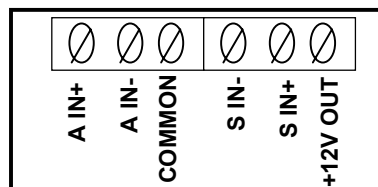

Figure 16
6. Insert the sensor's DC common (or negative) output wire into the **S IN-** terminal block and secure the wire by turning the terminal's screw clockwise. *(Refer to the MX001 box or to Figure 16 for the order of the terminals for the sensor wires.)*